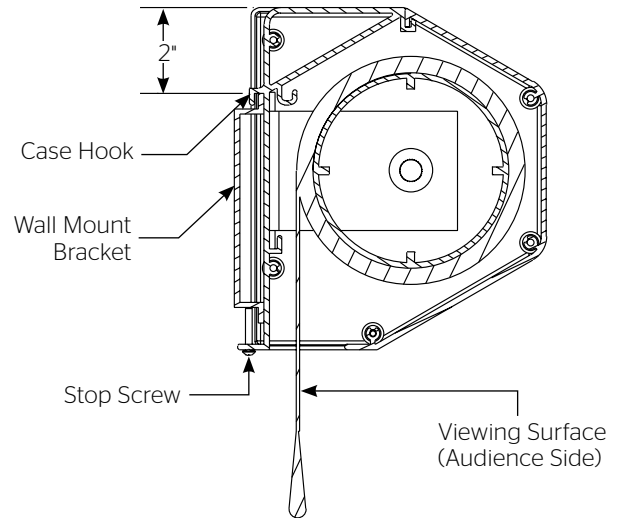

Figure 2
5. Mount the screen case on the wall bracket as shown in figure 2. Be sure the case is fully seated on the bracket. Tighten the stop screws against the wall bracket.